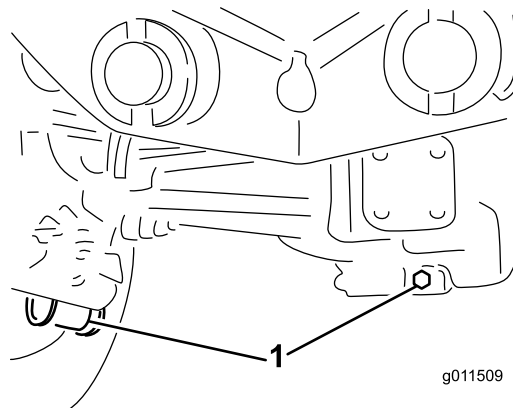

Figure 77
2. Clean the area around the 3 drain plugs; 1 on each end and 1 in the center (Figure 77).